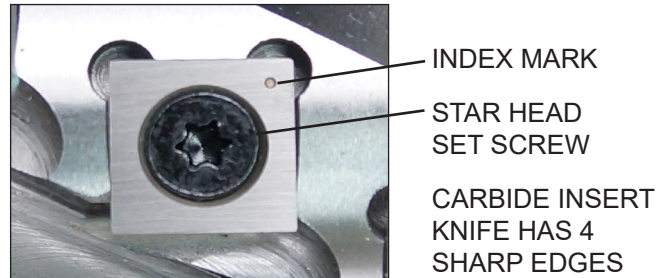

FIG. 27
4. Rotate the insert so that a new sharpened edge is in position. The inserts have a indication mark on their top surface corner, so that you can reference the positioning of the dulled or sharpened edges of the insert. FIG. 27 - 29A.